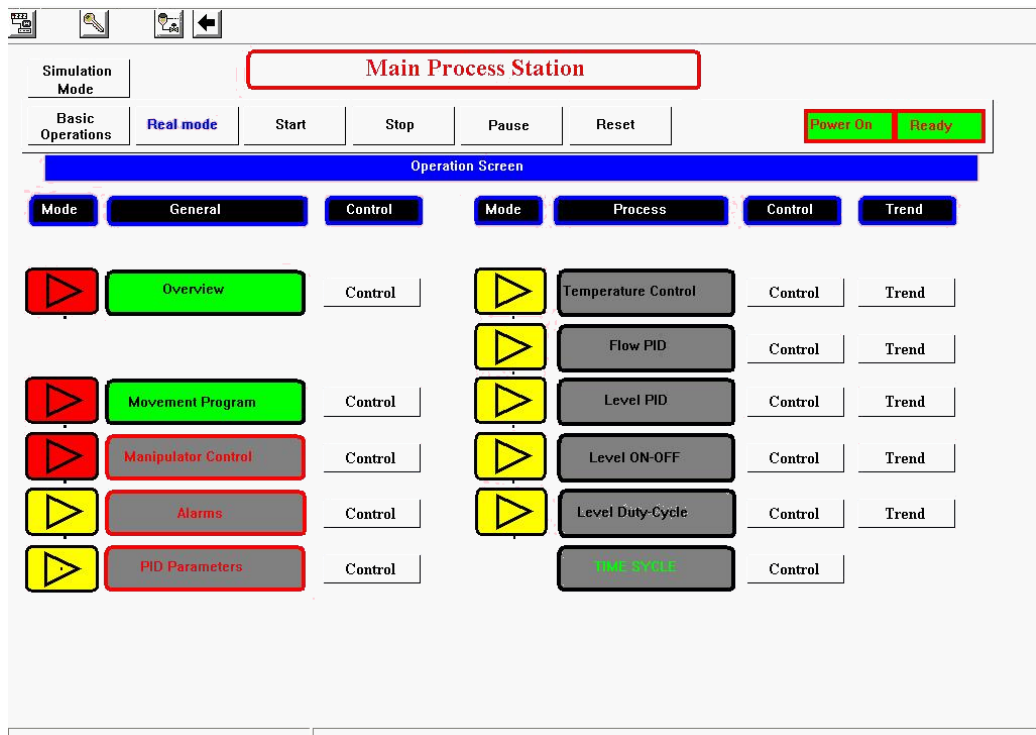

Figure 9-47: Main Process Station
8. Click **Restart**. The Main Process Station window (shown in Figure 9-47: Main Process Station) is displayed in the background. Click **Close** to close the Vuniq Application Manager window.
3. Select **Operator Screens**. The Main Process Station window is displayed, as shown in, Figure 9-47: Main Process Station.
8. Click the  icon to return to the Main Process Station window (shown in Figure 9-47: Main Process Station).